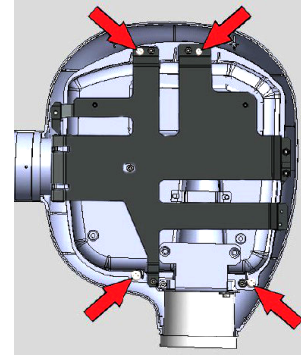

Figure 25
- Remove the 4 M3X16 self tapping pan head screws with M3 plain washers using phillips screw driver as shown in the Figure 25 and remove the top cover from the Tube Head.